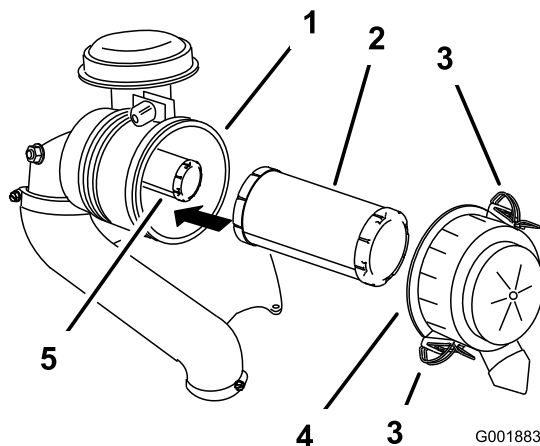

Figure 41
3. Release the latches on the air cleaner and pull the air-cleaner cover off the air-cleaner body (Figure 41).
5. Gently slide the primary filter out of the air-cleaner body (Figure 41).
2. If you are replacing the inner filter, carefully slide it into the filter body (Figure 41).
3. Carefully slide the primary filter over the safety filter (Figure 41).
4. Install the air-cleaner cover and secure the latches (Figure 41).